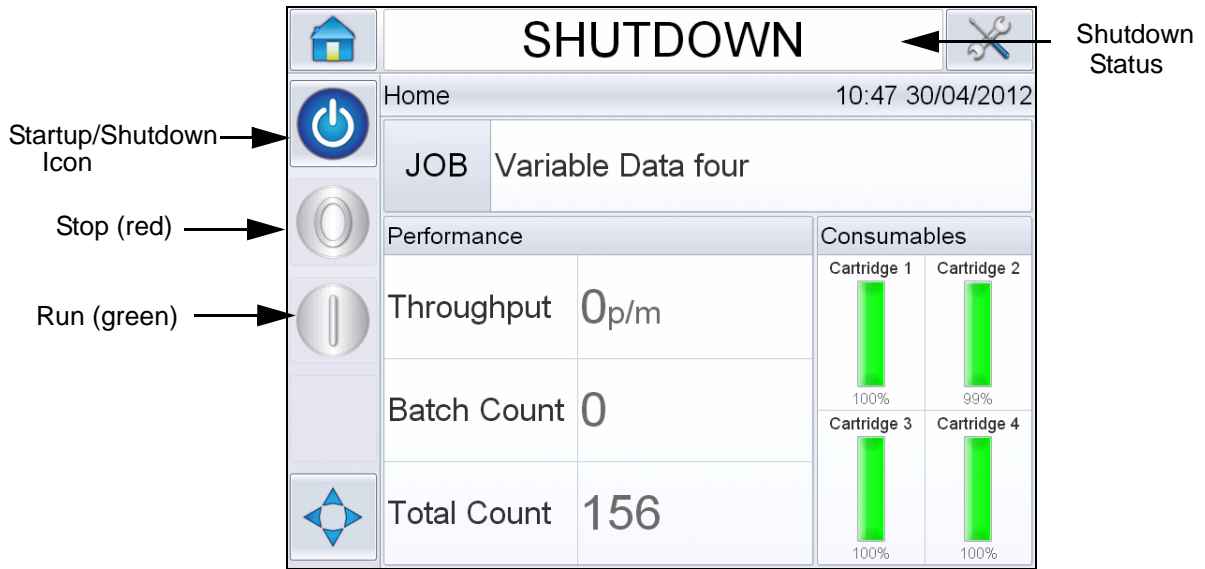

Figure 5-5: Clarity® Home Page
- 5 During SHUTDOWN, the Stop (red) and Run (green) icons (see Figure 5-5) are disabled (in grey color).